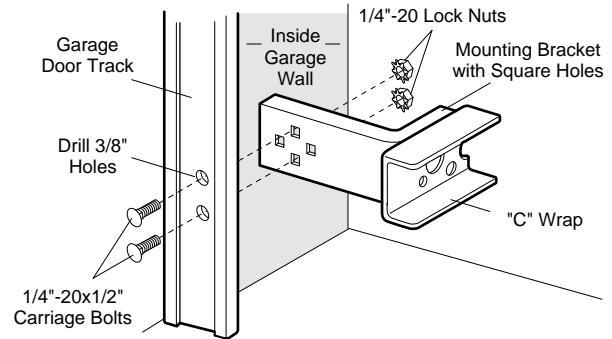

Figure 4
- Connect each assembly to a slotted bracket, using the hardware shown in Figure 4. **Note alignment of brackets for left and right sides of the door.**
- Use bracket mounting holes as a template to locate and drill (2) 3/16" diameter pilot holes on both sides of the garage door, 4"-6" above the floor (but not exceeding 6"). See warning on page 17.
- Attach bracket assemblies with 1/4"x1-1/2" lag screws as shown in Figure 4.